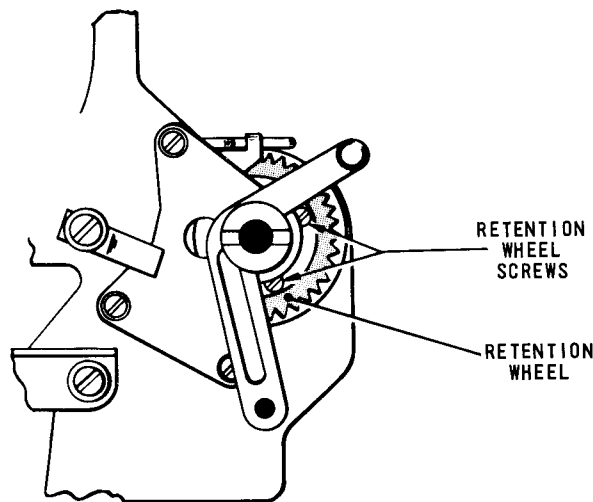

Fig. 4.39 SPROCKET FEED PLATEN—LEFT-HAND END
- 44.2 If it is not, slacken the three screws securing the retention wheel, Fig.4.39, until they are friction tight and, holding the platen so that the correct paper/type alignment is present, move the retention wheel until its roller is fully engaged. Tighten the three retention wheel screws.